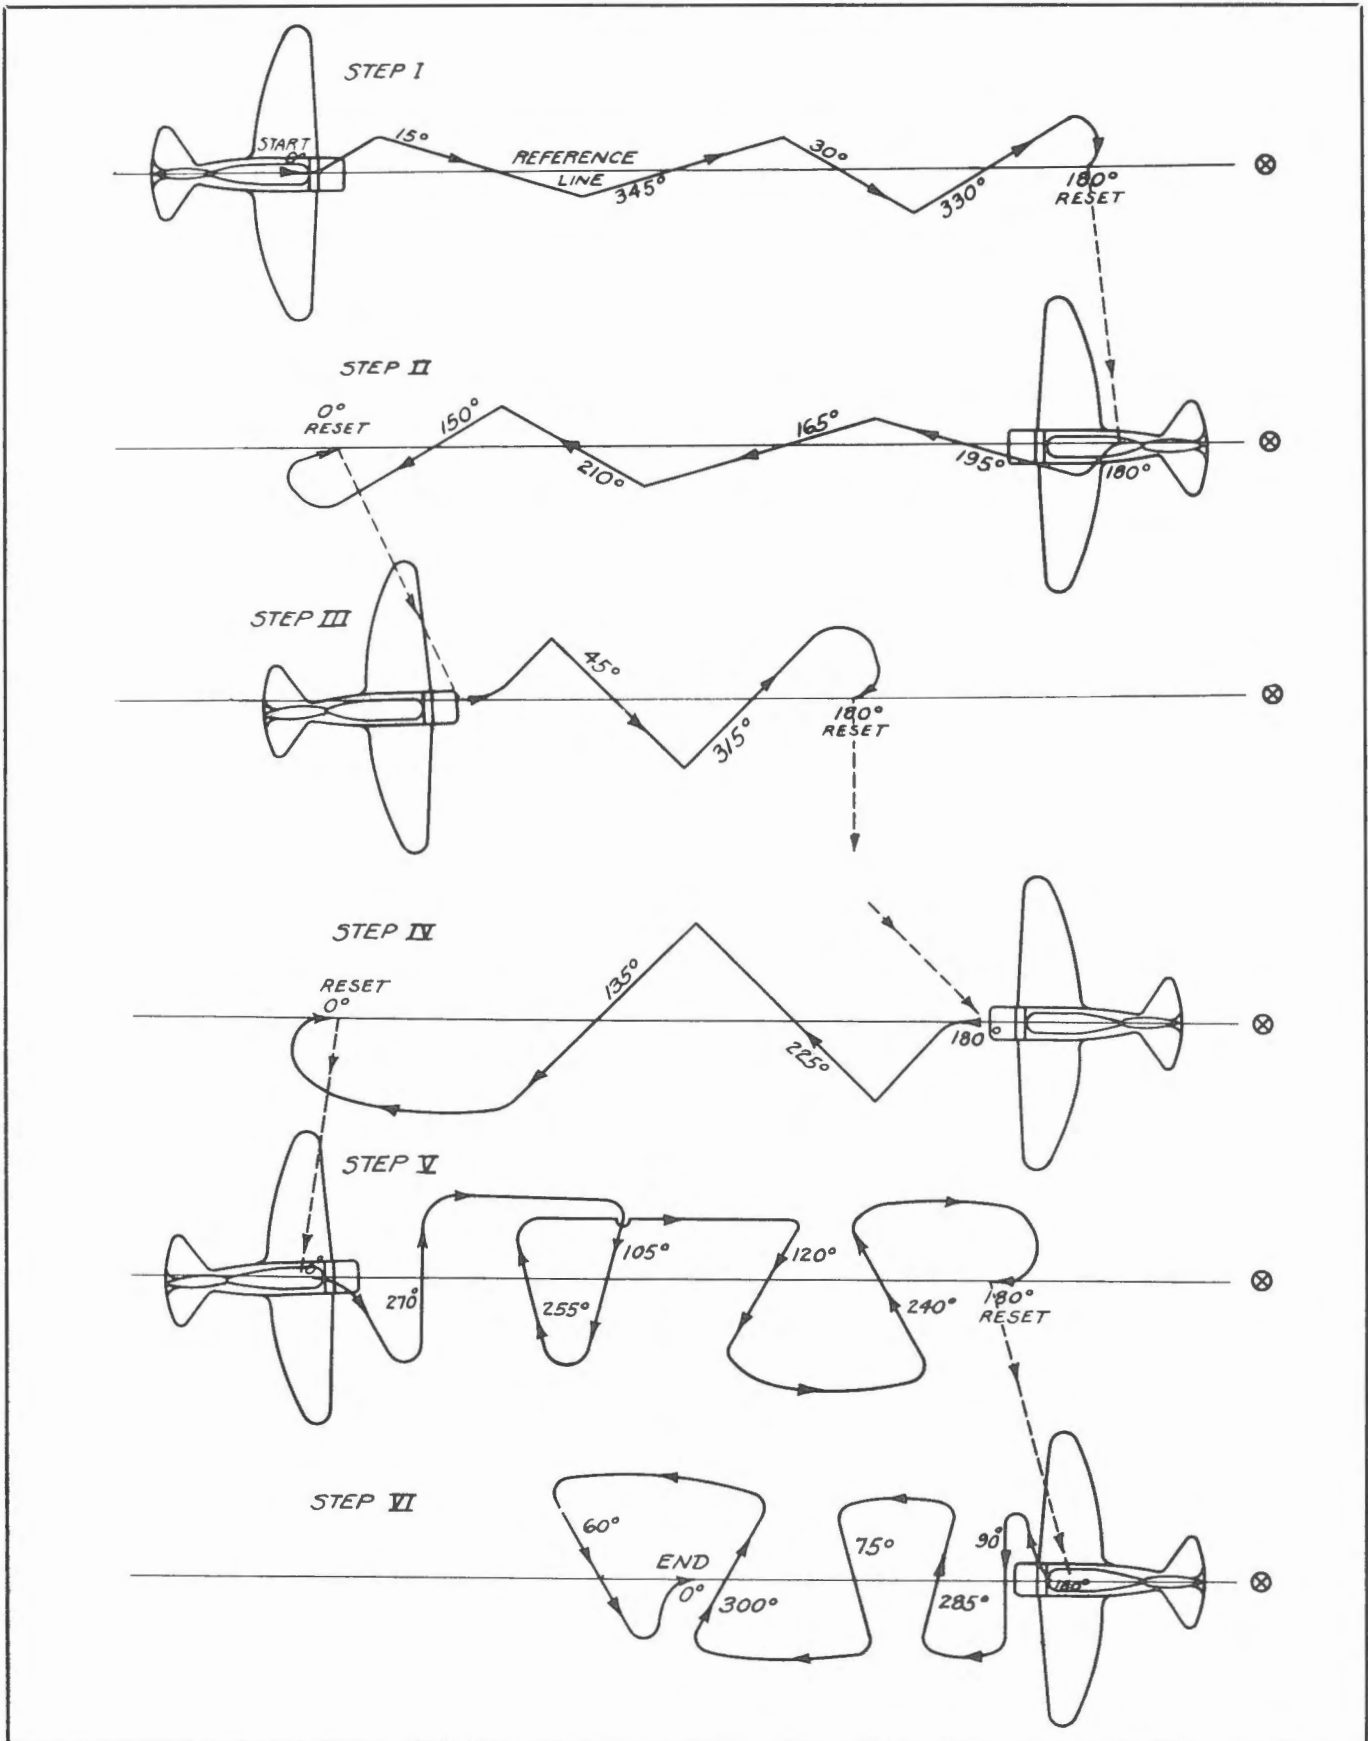
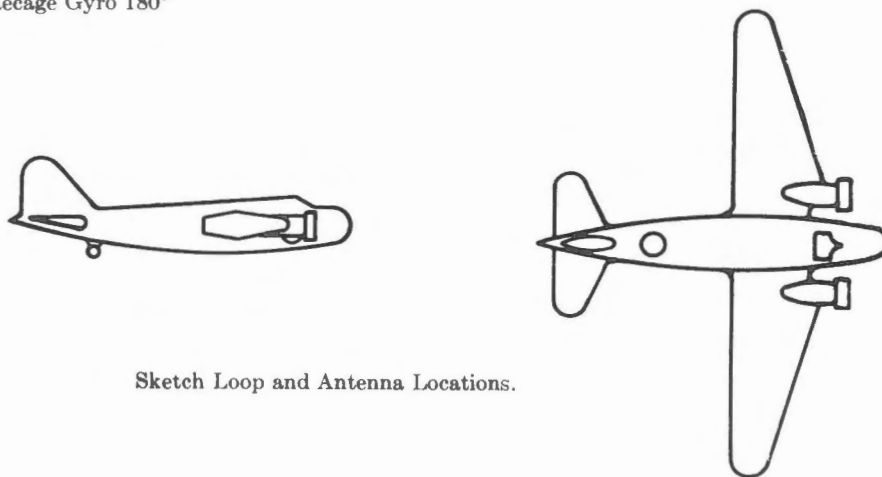
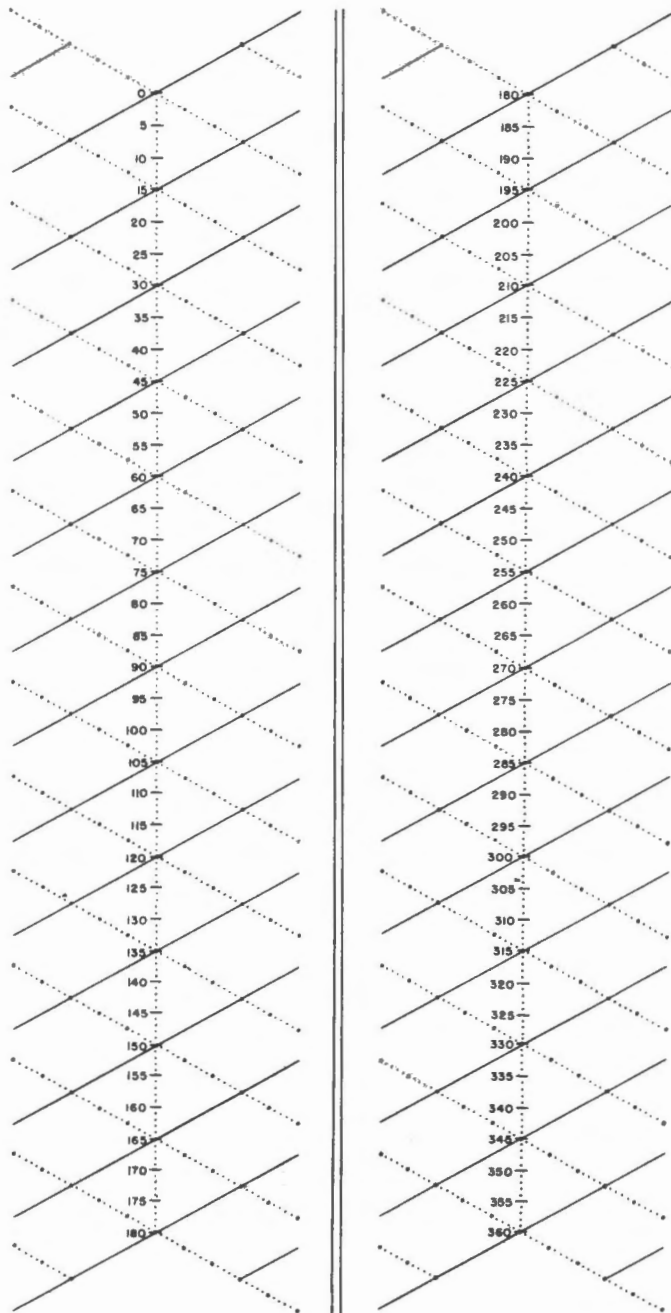

Figure 2-12. Procedure for Obtaining Radio Compass Deviation Data in Flight
Figure 2-13. Radio Compass Deviation Calibration Data
Figure 2-14. Radio Compass Deviation Calibration Curve
(3) Use the "VAR" knob on Indicator I-82-A (Navigator's) and set the azimuth scale zero to the index.
(4) Select a landmark or several landmarks (such as a road, railroad tracks, or section lines) which provide a direct line toward the radio station. Since power lines or railroads near the landmark can distort the radio path, find out whether or not distortion is present. Check the distortion by crossing the reference line at various angles while maintaining fixed courses by means of the directional gyro. If the bearing changes rapidly as the line is approached, distortion is present. Avoid this distortion by flying higher or by finding a new landmark.
(5) With the plane in level flight, fly along this reference line at an altitude low enough to avoid parallax error. If the airplane has a drift meter, use it to make sure that the direction of flight is parallel to or directly over the reference line. This maneuver is shown in figure 2-12 as well as those discussed in the following paragraphs. In practice, it is best to have the co-pilot use figure 2-12 to direct the pilot and to check the location of the airplane at all times with respect to the flight pattern shown.
(6) Turn the aircraft to the left and then swing back to the right, crossing the reference line at an angle of 15 degrees by the directional gyro. The pilot should be instructed to swing far enough out on these maneuvers to regain level flight some distance before the reference line is reached. Make readings only during conditions of level flight. Have the pilot inform the radio compass operator at the instant the airplane crosses the reference line. Record the radio compass bearing for that instant in the third column of figure 2-13. Greater accuracy can be obtained by using a drift meter since the drift meter observer can determine the exact heading of the aircraft in relation to the reference.
(7) Repeat the above procedure throughout step I of figure 2-12, recording the data in the third column of figure 2-13. Then return on the reference line as shown in step II. Reset the directional gyro each time a new step is begun.
(8) Repeat the above procedure until the entire flight pattern of figure 2-12 has been flown.
(1) Turn to figure 2-13. Plot the indicated bearings from column 3 against the corresponding plane-to-radio-station bearings of column 2. Use the chart of figure 2-14. (See figs. 2-3 and 2-15 for examples.)
Do not try to apply corrections of more than ± 20 degrees on the compensator. The correction curve should be smooth and essentially sinusoidal. If there are sharp discontinuities in the curve, or if the rate of change of correction exceeds 12 degrees in 15 degrees of azimuth, find and remove the cause of these errors, since such errors cannot be corrected by the compensator. Unsymmetrical antenna structures or the aircraft usually cause these errors. After correcting them, rerun the radio compass deviation calibration. If antennas or the aircraft structure are changed in any way after the calibration test, also rerun the calibration. The indicated bearings are listed in column 4, figure 2-13, in proper order for adjusting Compensator MC-217 or Compensator Assembly MC-507. Adjustment of the compensator must progress both clockwise and counterclockwise from zero; use the data that apply to each position. This type of adjustment is necessary because the cam strip is anchored at zero and the open ends are 180 degrees from the zero position.